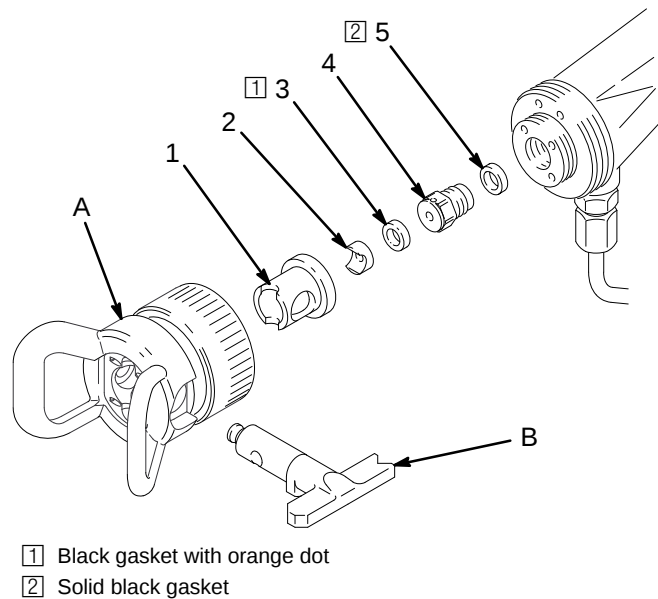

Fig. 1
3. While triggering the gun, remove and *discard* the diffuser-seat (4) and fluid gasket (5). See Fig. 1.
NOTE: The diffuser-seat you remove will not look the same as the new diffuser-seat, item 4 in Fig. 1.
4. Install the new fluid gasket (5) and diffuser-seat (4) from the kit into the gun.
5. Remove the AA RAC tip cylinder (B) from the air cap assembly (A).
6. Remove and *discard* the RAC housing (1), fluid seat (2), and gasket (3).
7. Install the new RAC housing (1) into the air cap assembly (A). Align the parts, and install the tip cylinder (B).
8. Install the new fluid seat (2) into the housing (1), behind the tip cylinder (B). Align the parts, and press the gasket (3) into place.